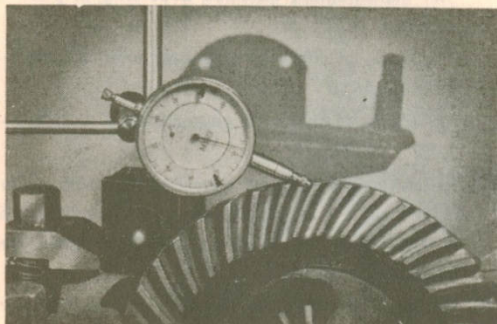

Fig. 5-28. Measuring the backlash
13. Measure the backlash as shown in Fig. 5-28. This should be 0.004"–0.008".
Each time the position of the pinion is altered, the backlash must be adjusted and checked, see Fig. 5-28.